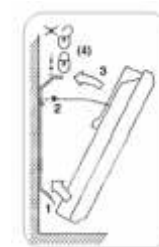

Fig. 6
7. Suspend the convector on the bracket, for which purpose attach the lower part of the unit to the lower extension of the bracket and insert them into slots, available in the lower part of the unit's rear panel. Carrying out these actions, it is necessary to hold the unit at the angle of ~50-60 degrees (Fig. 6).
8. Turn the unit in a horizontal plain until upper extensions of the bracket coincide with the upper slots in the unit's rear panel and slightly press on the unit until you hear clicking of the upper extensions (Fig. 6).